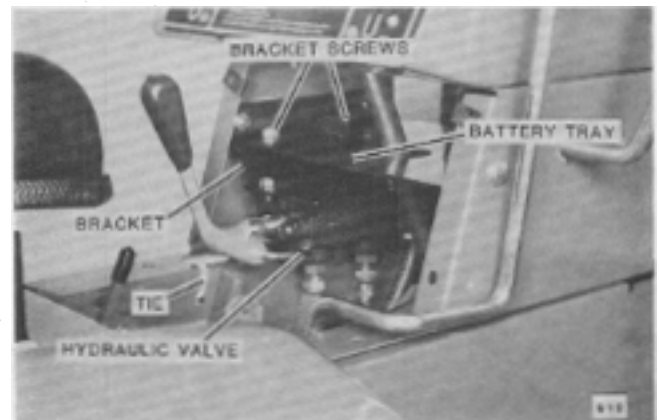

FIG. 19C. Late Model Control Valve
1. If applicable, remove battery (Fig. 19C).